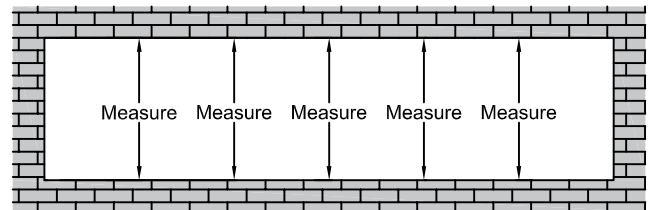

Fig.23.3
- C. Measure the height of the opening at several points along the entire width of the opening. Select the smallest of these dimensions and subtract the top and bottom caulk joint height per approved shop drawings ($\frac{1}{4}$ " minimum caulk joint at sill. At head, caulk joint can be $\frac{1}{4}$ " using T14055 or similar flashing. When using T14259 or E14059 sill flashing, head caulk joint must be $\frac{3}{8}$ ") **SEE Fig.23.3.**